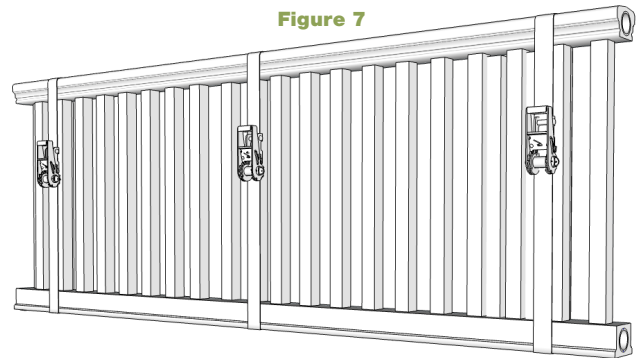

Figure 7
- D. Use straps to hold the balustrade section together while the adhesive cures. See figure 7.